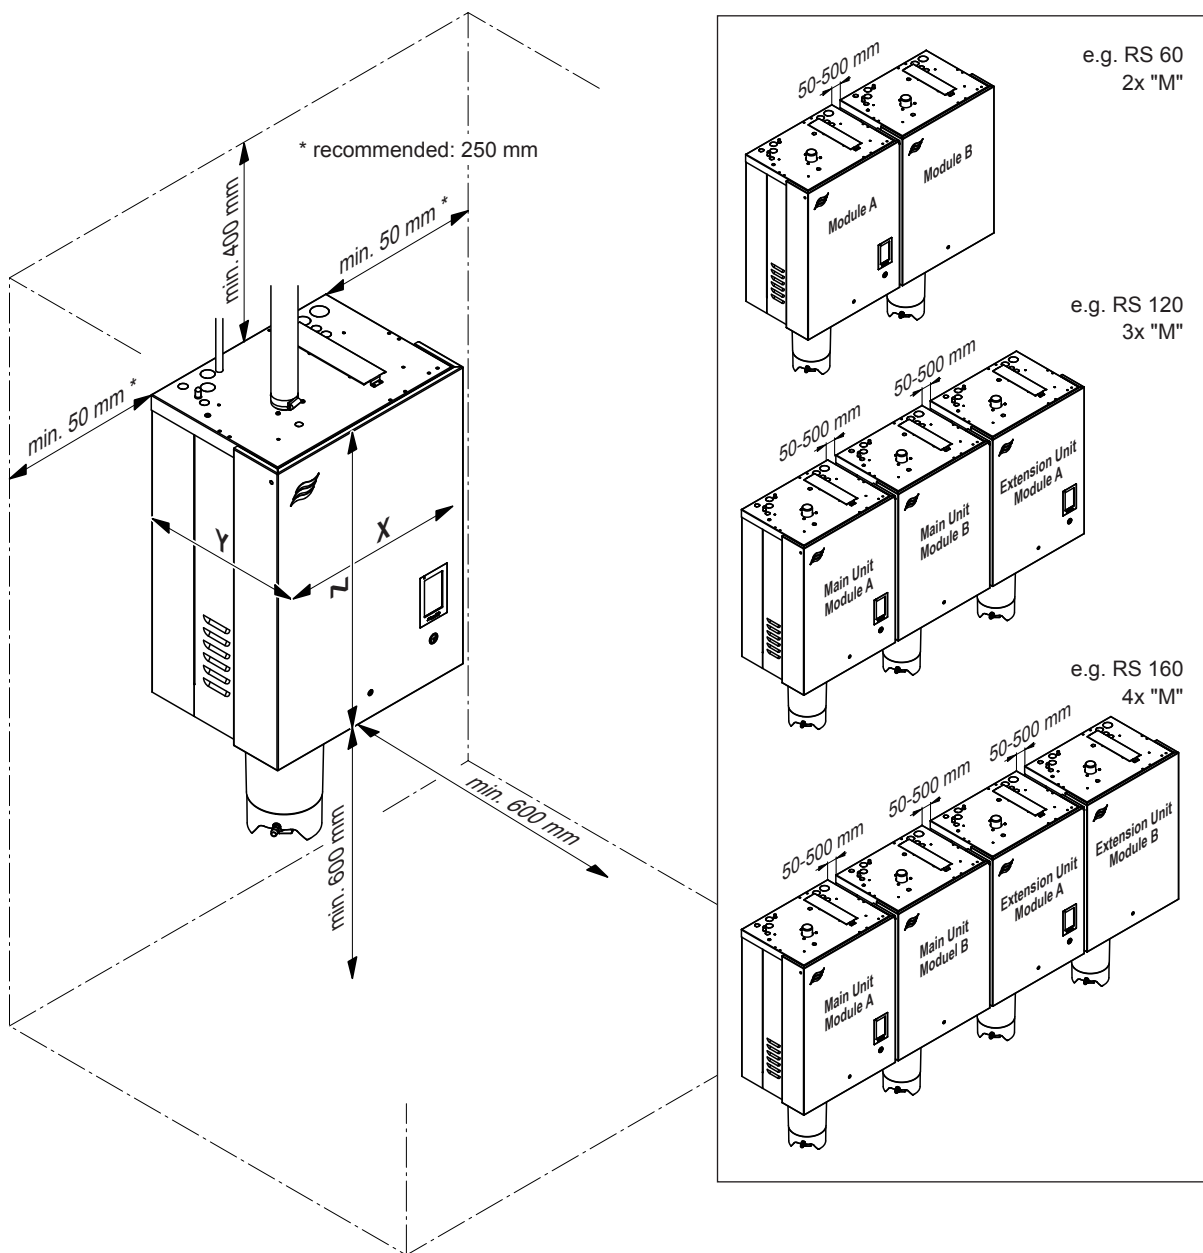

Fig. 10: Distances to be observed
- Install the Condair RS in such a manner that it is **freely accessible** with sufficient space available for maintenance purposes. The **minimum distances** shown in Fig. 10 **must be maintained**.
- In order to use the cables supplied with double units and device interconnected systems, the units must be mounted on the same height, with a minimum distance of 50 mm and a maximum distance of 500 mm between the units and in the order shown in Fig. 10.